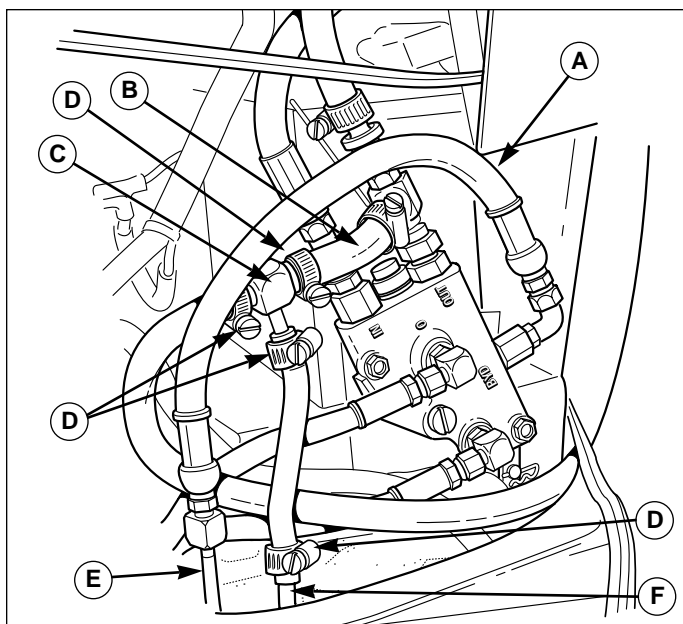

Figure 23. Install T-Connector
1. Install the 23/32" x 17" bypass hose (A, Figure 23) from the power beyond port of the master valve to the front cross-over tube (E).
2. Cut the return hose (B, Figure 23) 3" from the valve as shown.
3. Install the T-connector (C, Figure 23) in the return hose (B) and secure with hose clamps.
4. Connect the third leg of the T-connector (C, Figure 23) to the back cross-over tube (F) using the 5/8" x 9" hose and hose clamps.